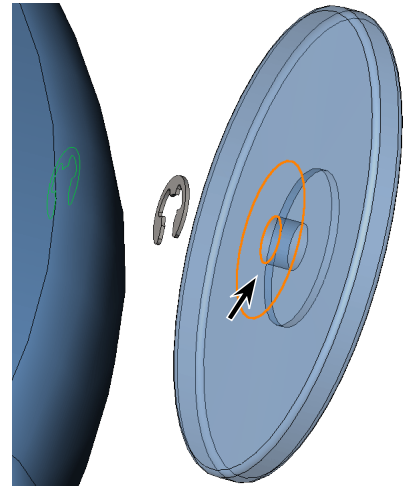

Fig. 19
Step 3. Use **Right arrow** key to rotate assembly to view side face of **inside vertical face of Front Wheel**, Fig. 19.
Step 4. Click **vertical flat face on Front Wheel**, Fig. 19.